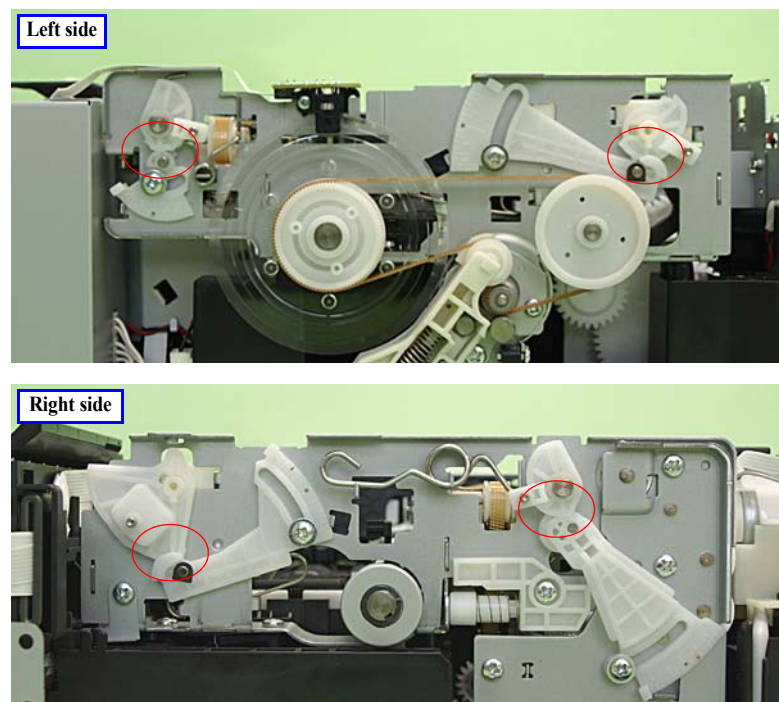

Figure 5-36. PG position when adjusting
See Figure 5-36.
- Check that the PG cams; located on both the left side and the right side of the Carriage Shaft and the CR guide plate, are in the PG-position. (Fig. 5-36)
Epson Artisan 800/Epson Stylus Photo PX800FW/TX800FW/Epson Artisan 700/Epson Stylus Photo PX700W/TX700W have five PG pre-settings using the APG mechanism. Use the minimum PG setting (PG-: 1.2mm) to carry out this checking. See Figure 5-36.